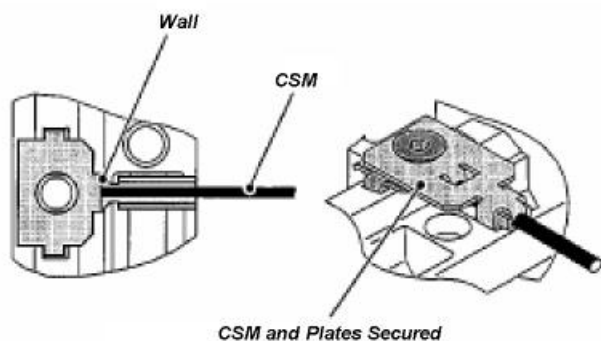
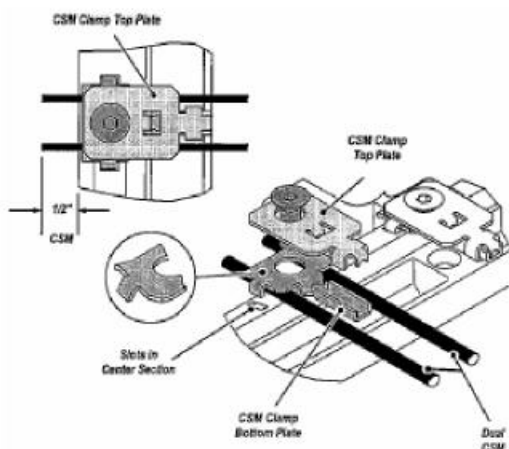

Figure 6a - Single CSM Clamp Installation
Figure 6b - Dual CSM Clamp Installation
11.03 Assemble the CSM retention clamp by installing the bottom plate into two alignment holes. Then, align the CSM or outer strength members and hand start the Allen head screw. Refer to **Figure 6a – Single CSM Clamp Installation**, and **Figure 6b – Dual CSM Clamp Installation**.